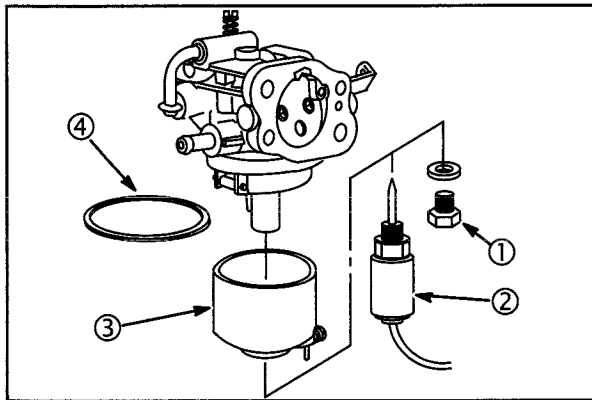

Fig. 43
1. Remove anti-afterfire solenoid (2) or bowl screw (1), washer and bowl (3), **Fig. 43**. Remove bowl gasket (4).